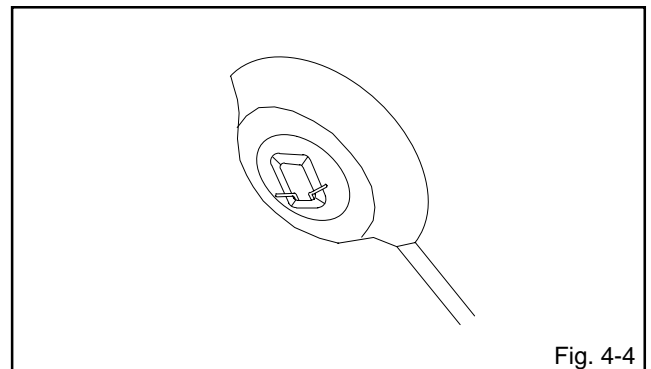

Fig. 4-4
3. Turn over the Rubber Cap. (Refer to Fig. 4-4.)